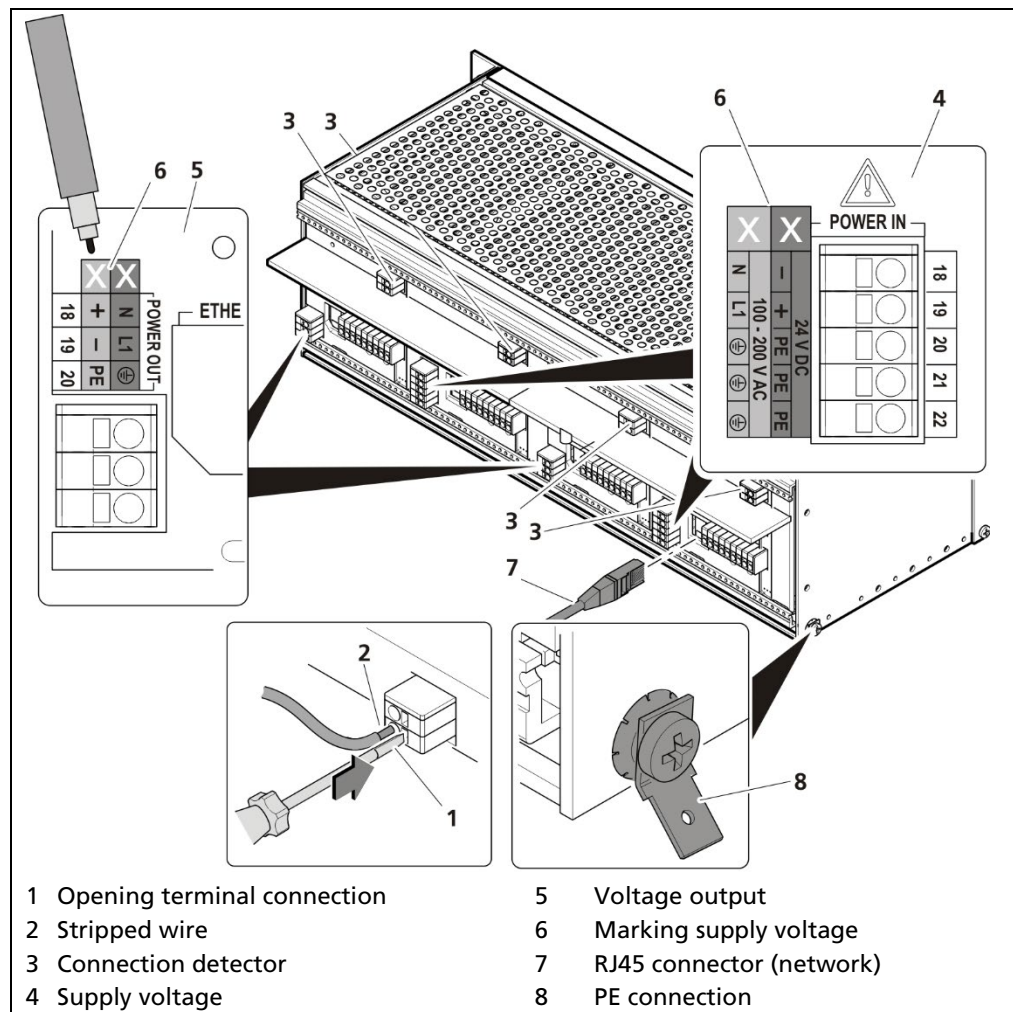

Fig. 19 Electrical connection in the 19" subrack
Prior to initial start-up, the voltage range (Fig. 19, item 8) must be marked with chemical resistance on all input and output terminals!
The terminal board master/slave is used twice (Fig. 19, item 2) for the variant to install 2 master EVUs and 6 slave modules.
The terminal board master/master (Fig. 19, item 1) is used twice for the variant to install 4 master EVUs.
Apply the voltage of the specified and marked (Fig. 19, item 6) range only!
- Label the voltage range permanently and chemically (Fig. 19, item 6).
- Open the terminal connection (Fig. 19, item 1) with an operating tool (slotted screwdriver) and insert the stripped wire (min. 8 mm) (Fig. 19, item 2). The terminal connection closes by pulling out the operating tool. The terminal connections are designed for the flexible wires:
- Plug the network plug into the RJ45 socket (Fig. 19, item 7) (optional).
- Check the correct connection of the PE conductor (Fig. 19, item 8).